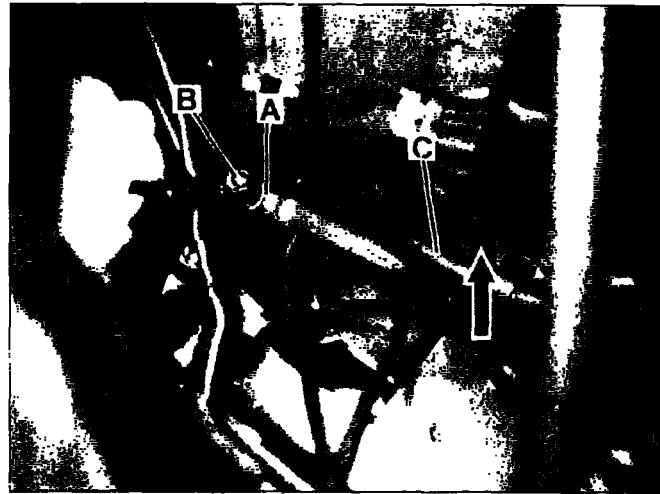

Figure 20
19. Attach the ground wire harness ring connector (A, Figure 20) to the body ground terminal (B) with M6 nut. Torque the M6 nut to 10 Nm.
- The ground wire harness (arrow) must be routed under the SBC suction hose (C). The ring connector (A) **must** be positioned as shown in Figure 20.
- This ground terminal (B) is to be used **only** for mounting the SBC ground wire harness (arrow).